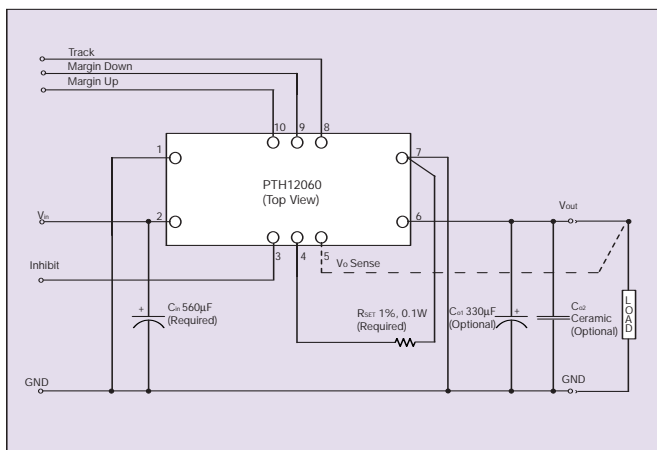

Figure 5 - Standard Application - All Models
- The pk-pk output ripple voltage is measured with an external 10 μF ceramic capacitor. See Figures 5 and 8 for Standard application schematic.